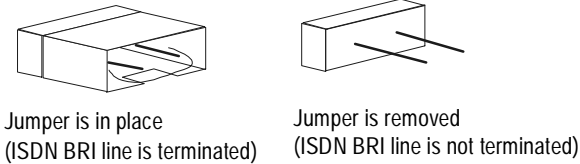

Figure 2. Termination Jumpers
Set jumpers as follows (See Figure 2 for details):
- ◆ Brooktrout does not support any configuration except the two illustrated in Figure 2.